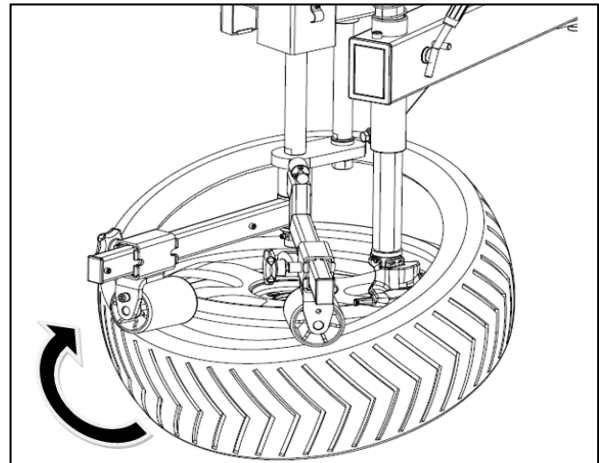

FIG22
- Adjust the upper tire side position well and put the two arms at proper position like FIG22. Adjust the two press roller to the edge of rim 1-2cm then go down the cylinder 5-7cm in order that the tire lip is lower than groove. Step the pedal to rotate the turntable. Pay attention to the tire situation when the tire just 10-15cm out; if there has tear sign or the motor blocks, release the pedal at once and lift the pedal to rotate oppositely. Repeat the operation till mount the tire fully.